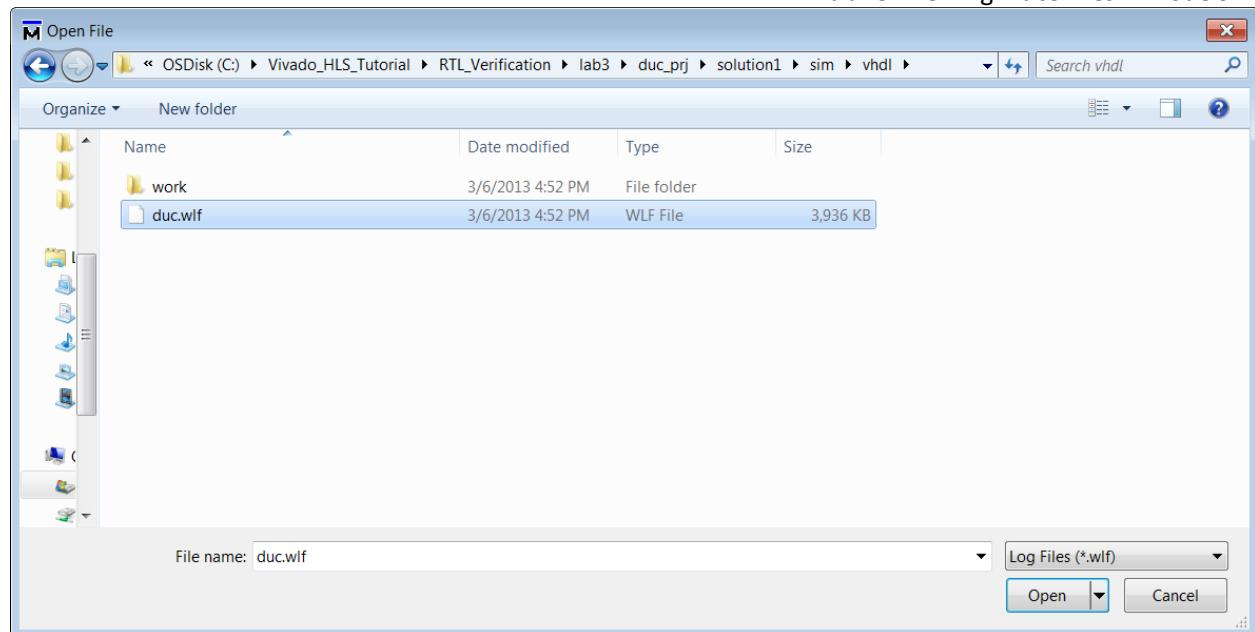

Figure 182 ModelSim Open File WLF
3. Select Log Files as the file type (Figure 182).